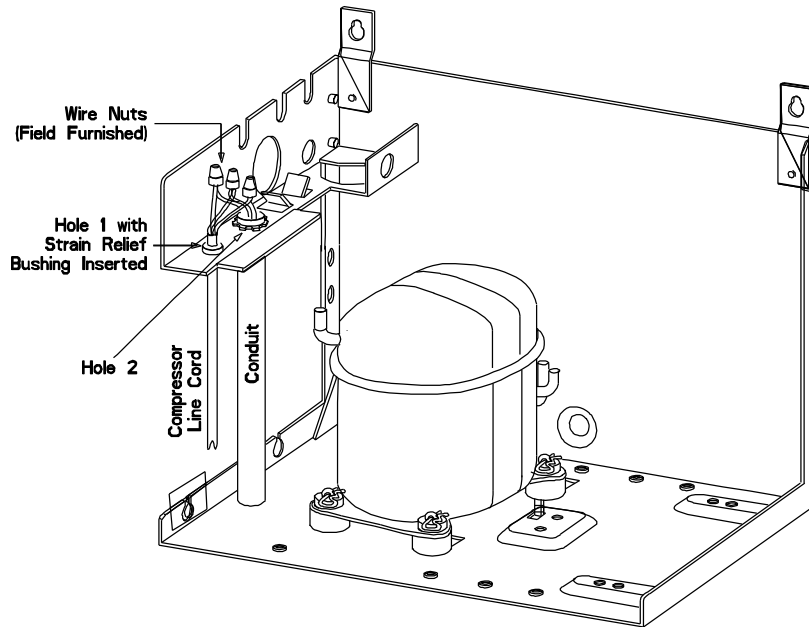

Figure 3: Permanent Wiring Using Conduit
1. Cut the line cord to a sufficient length so that it will reach from the compressor terminal box through Hole 1 as illustrated in Figure 3; 12 in. (305 mm) should be long enough.
4. Connect the conduit to Hole 2 as illustrated in Figure 3, and join the leads together using the appropriate wire nuts (field furnished).